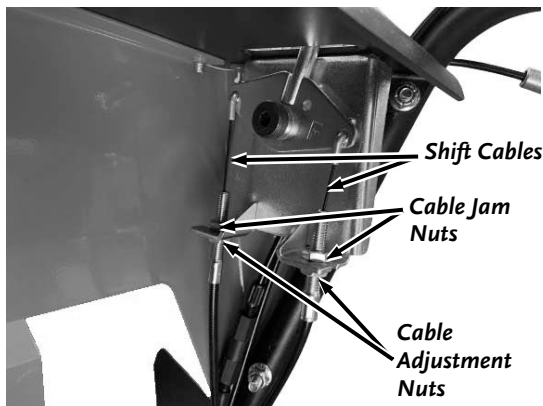

Figure 26
1. Locate the Shift Cable Adjustment Nuts on the Shift Lever end of the cable (**Figure 26**).